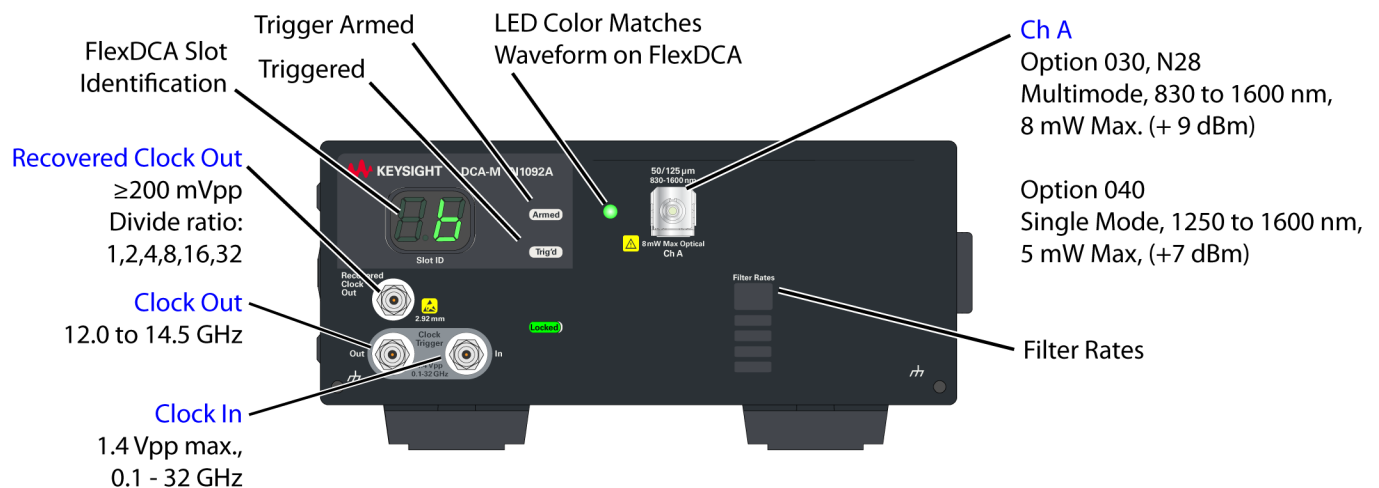

Figure 8. N1092A Option CDR Front Panel
- *Figure 8, N1092A Option CDR Front Panel*, on page 32